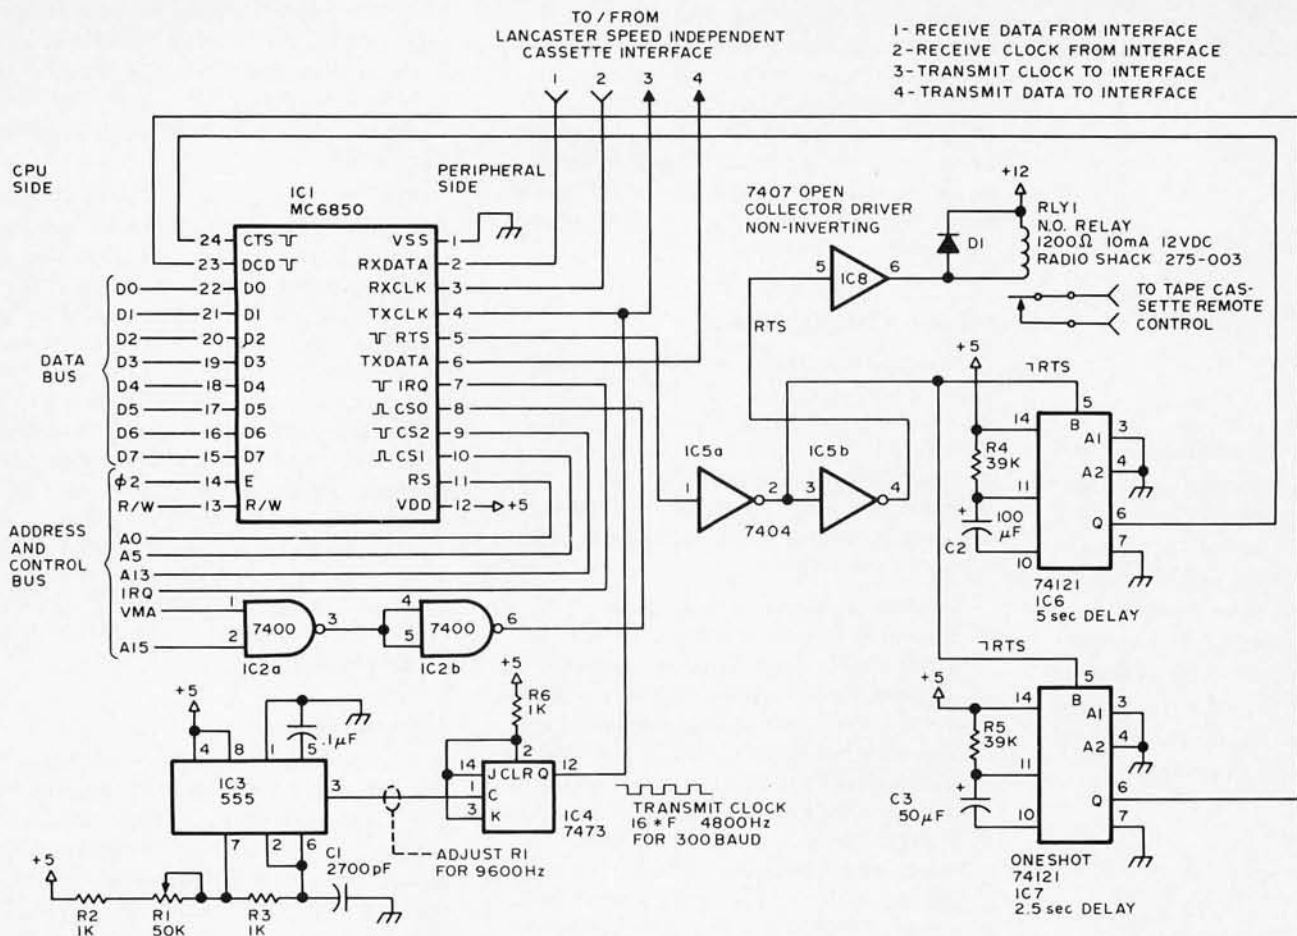

Figure 2: Motorola 6800 ACIA and control circuitry for the COMPLEAT Tape Cassette Interface.
The ACIA is interfaced to the system data bus either directly, or by means of an appropriate 8 bit bus buffer. The interface is controlled by means of the read write line (RW) and address selection logic. In the hardware of this article, a full address decode is avoided by wiring the chip select lines to appropriate system address bits and using the low order address bit as the register select line (RS, IC1 pin 11). The ACIA has four registers, but only two memory address space locations are required. The apparent inconsistency is resolved by the read write line of the system interface. Two of the internal registers are read only registers (receiver data and status registers), and two of the internal registers are write only registers (transmitter data and control registers). Table 1 shows the system addresses and register access used by the interface of figure 2. (Note that any pair of neighboring locations in memory address space can be used conveniently with appropriate decoding.)
The circuit of the interface is shown in figure 2, including all details except the Lancaster tape cassette modem circuit. Note